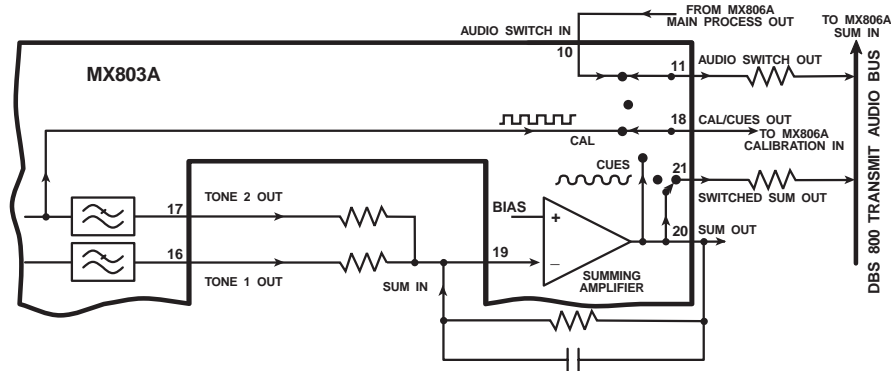

Figure 3: Example of Signal Switching in a DBS800 microcircuit
2. System Components whose values are calculated to allow the MX803A to operate with other DBS 800 microcircuits. Figure 3 shows these components used in the system signal paths.